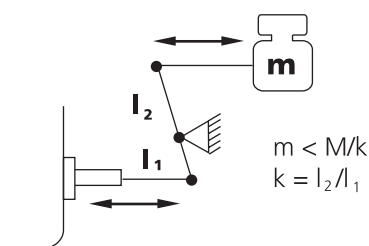

Figure 33
- If the attached part is joined with a lever mechanism, the weight (including directly moved parts) shall be decreased in proportion of the lever (Figure 33).